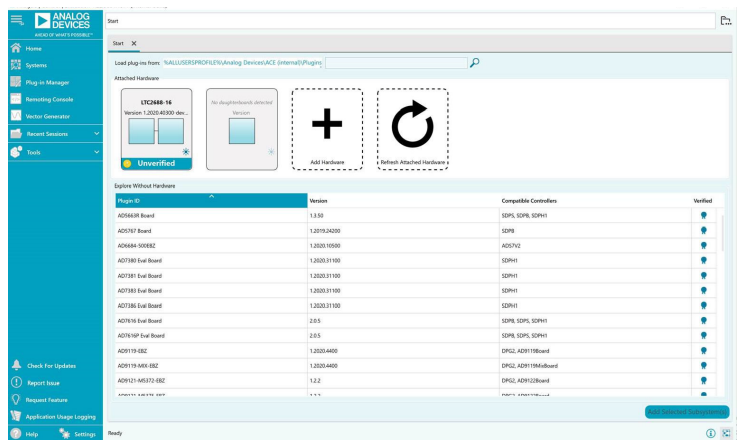
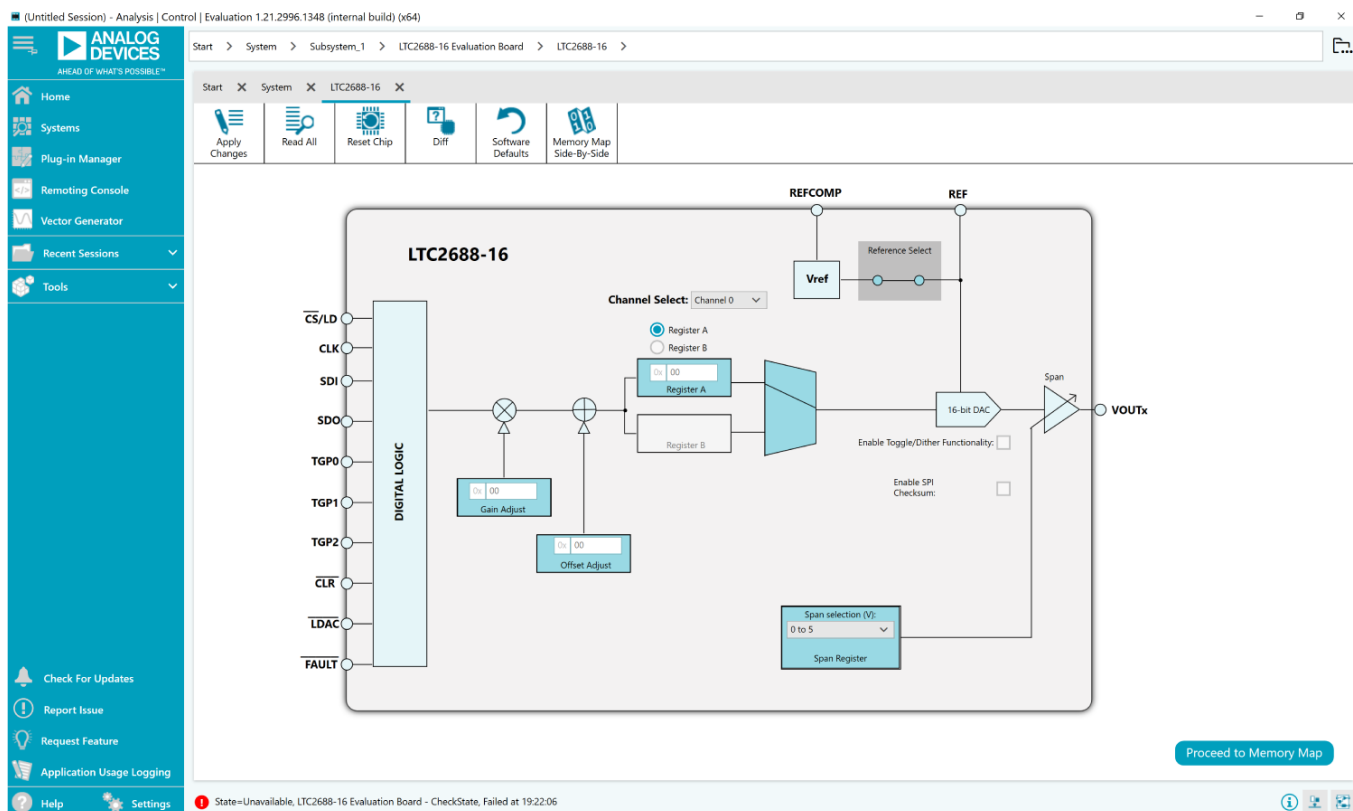
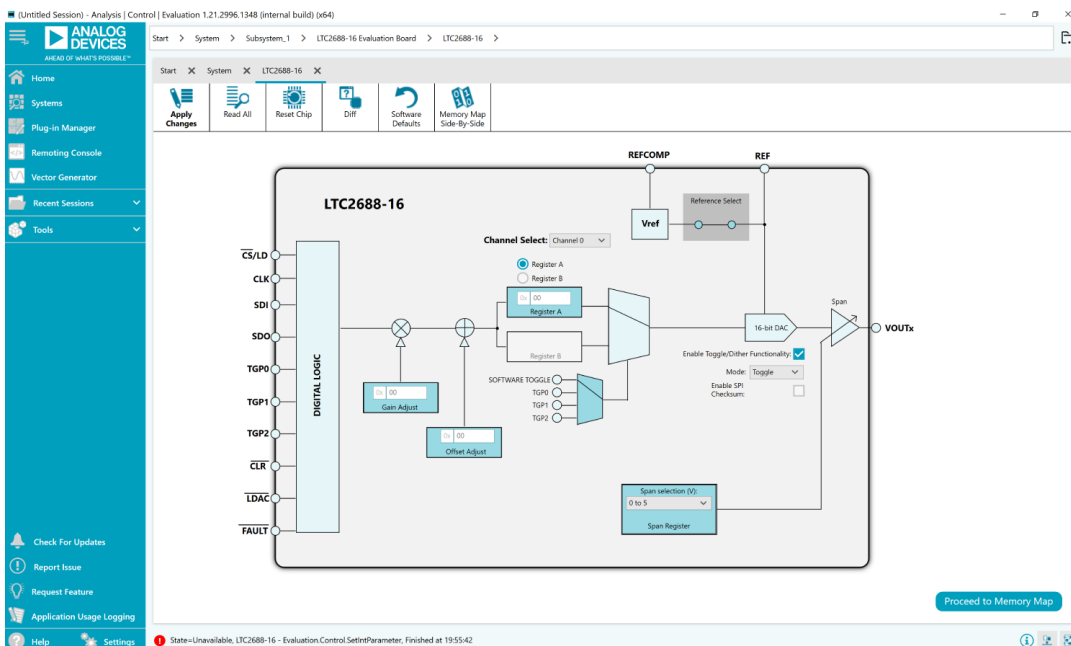

Figure 4. Interface Window
Figure 5. ACE Evaluation Software Main Window
Figure 6. Toggle View
To start the ACE evaluation software, from the **Start** menu, click **Analog Devices > ACE**. The software window opens (see Figure 4) until the software recognizes the DC2873A-B. When the software recognizes the DC2873A-B, the main software window in Figure 5 opens.
In the main ACE evaluation software window (see Figure 5), each channel can be controlled. Various settings for the LTC2688 are available in this window, allowing the user to configure the output range, output voltage, gain adjustment, offset adjustment, toggle options, and dither options of each channel.
The DC2873A-B uses the LTC2688 internal reference to set the full-scale range. To apply an external reference, click the box labeled Reference Select (see Figure 5).
2. Select the desired range for the selected channel using the **Span selection** dropdown box (see Figure 5).
2. Type the desired value into the **Register A** text box (see Figure 5).
2. Type the desired hexadecimal value into the **Register A** (or **Register B**) text box (see Figure 5).
2. Type the desired hexadecimal offset or gain adjust value into the **Offset Adjust** or **Gain Adjust** text boxes (see Figure 5).
Toggle mode can be enabled by selecting the **Enable Toggle/Dither Functionality** check box (see Figure 5). This check box enables the toggle view shown in Figure 6. The toggle signal can then be applied to the selected pin or supplied internally.
After enabling the toggle view shown in Figure 6 as described in the Enabling Toggle Mode section, select the dither mode from the
To access the **LTC2688-16 Memory Map** view, click the **Proceed to Memory Map** button from the software main window (see Figure 5).